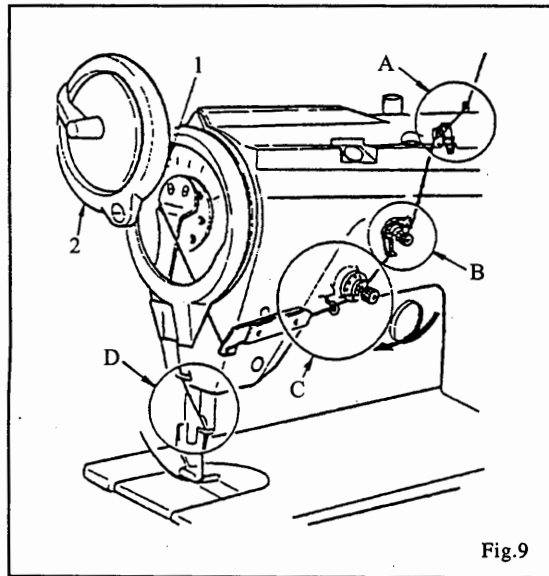

Fig. 9
CAUTION: Be careful not to injure your fingers with the thread cutter (1), Fig. 9, on the face plate when threading the rotary take-up.